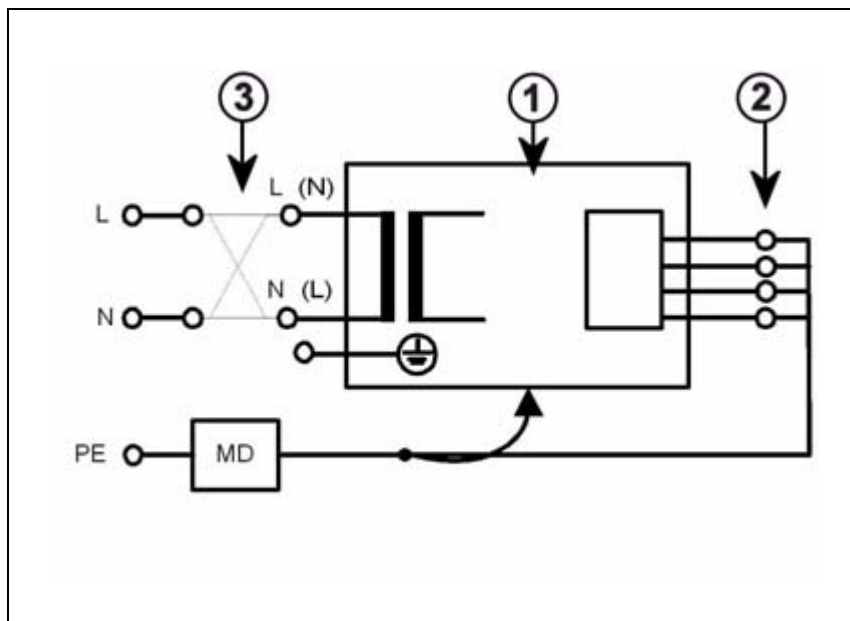

Fig. 3: *Measuring circuit for direct measurement of the system leakage current in compliance with DIN VDE 0751-1/2001-10, Fig. C5 for protection class I.*
If the direct measurement of the system leakage current is used (measurement setup according to (Fig. 3 / p. 17)), the system must be insulated during the measurement and must not be touched.
- ⇒ **No housing parts of the system may be touched during direct measurement of the leakage current (measurement setup according to (Fig. 3 / p. 17)).**